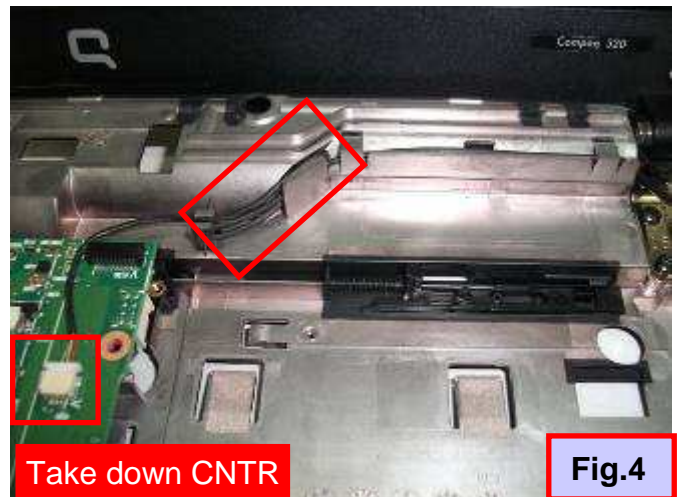

Fig.4
3. Take down MIC Cable(Fig.4) .